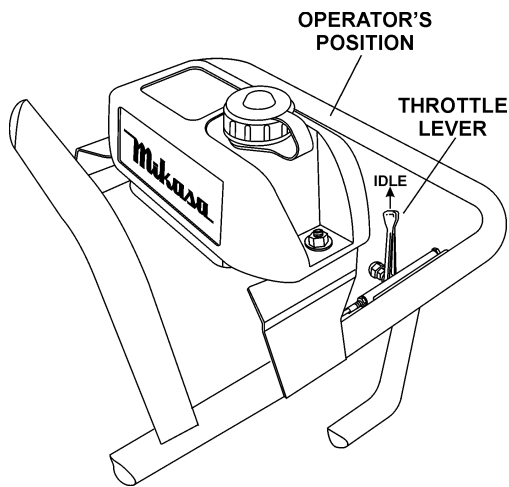

Figure 9. Throttle Lever (Idle)
- Move the throttle lever to the "IDLE" position (Figure 9).